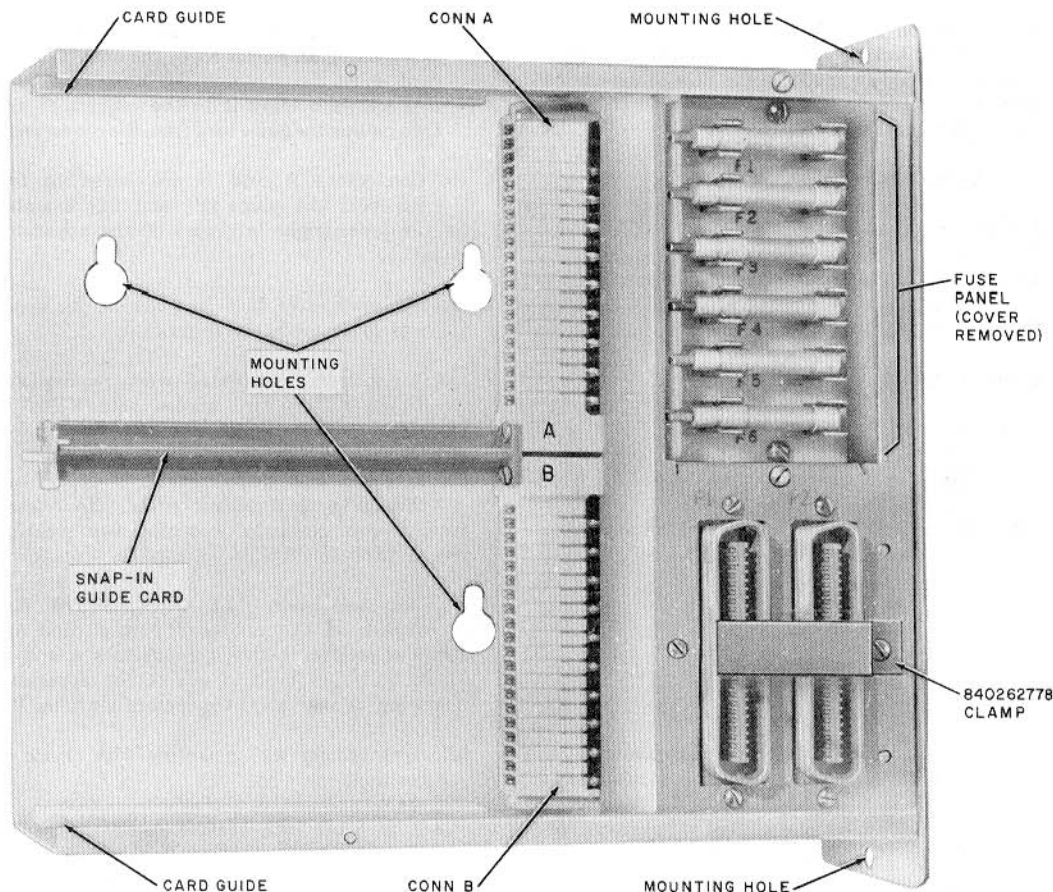

Fig. 2—110A Apparatus Mounting (With Card Guide, Cover Removed)
**2.05** The 110A apparatus mounting (Fig. 2) is designed with the following features: